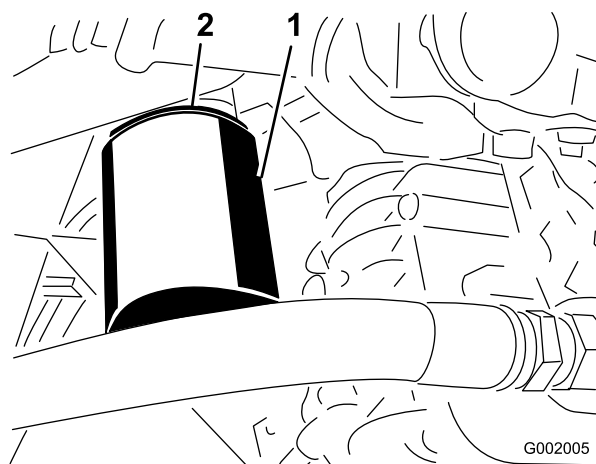

Figure 67
4. Remove the filter (Figure 67).